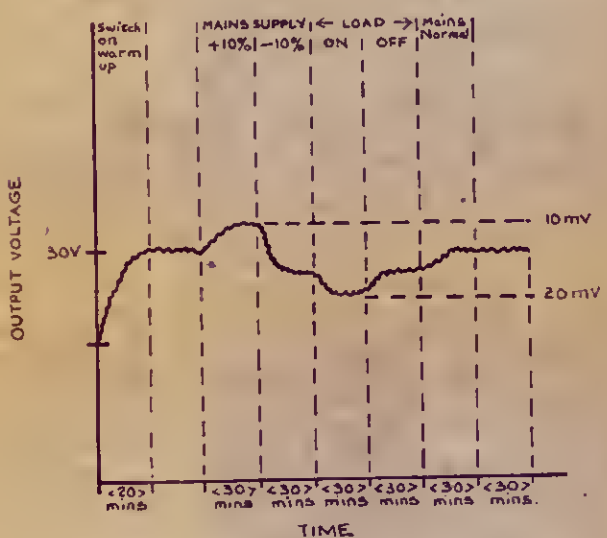

Fig 4. Typical Output Voltage Variation against Time.
- (ii) *Internal Change*—Figure 4 shows typical output variations caused by mains change and load change, plotted against time.